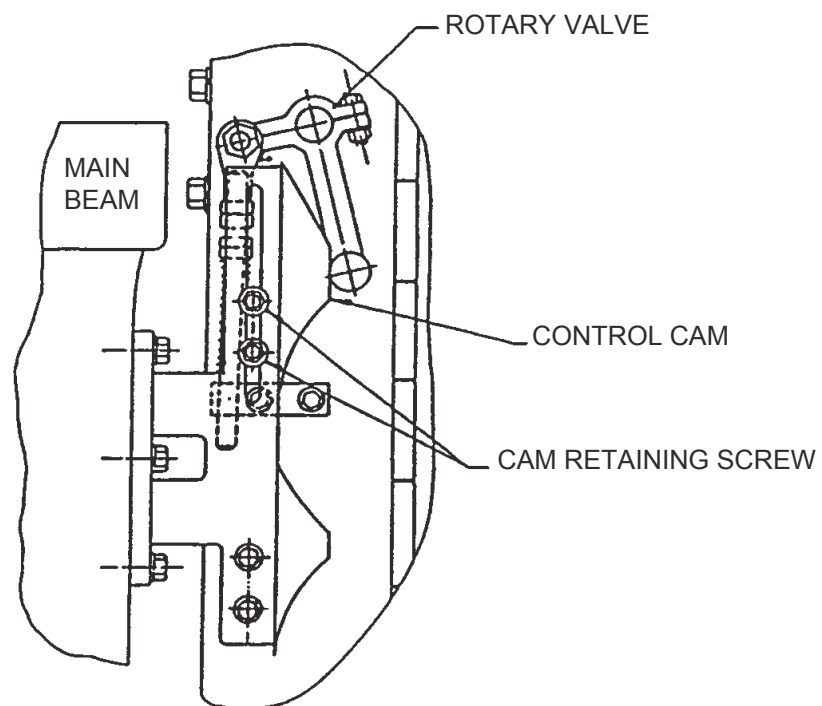

Figure 46, Main Beam Cushioning Adjustment
- Loosen nuts on top cam that operates rotary valve (main beam flow control valve) (Figure 46) and slide it up to the top of its slots.
The main beam rotary valve must be properly adjusted to ensure cushioning of the main beam as it starts and stops the down-stroke. Adjustment consists of locating a control cam (Figure 46) in relation to main beam travel limits, which will vary according to mold size.